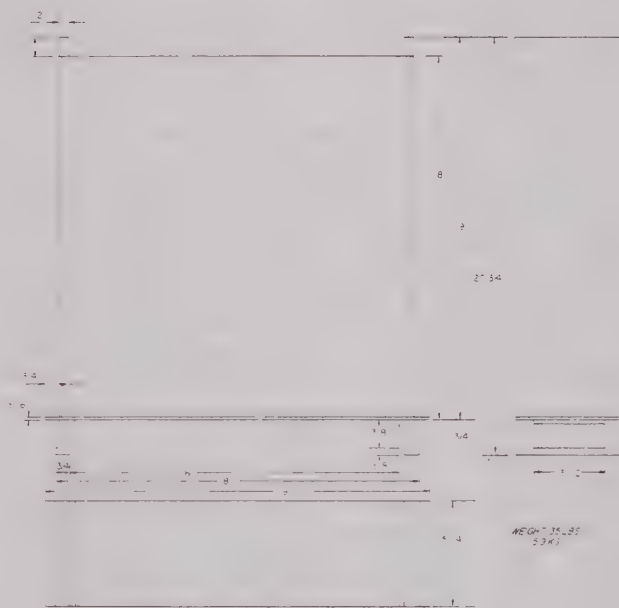

Figure 2-1 Outline and Mounting Dimensions
b. Installation. The E-H Model 1501A is supplied in a rack-mount configuration. Refer to Figure 2-1 for mounting dimensions. Power connection and fuse requirements are silk-screened on the rear panel. Input ac power is connected via the three-conductor power cord (supplied) to rear panel connector J101. The POWER switch should be turned OFF (down) prior to plugging in the instrument. The instrument is cooled by an internal fan that operates when the POWER switch is turned ON. The top and bottom covers should remain in place when the instrument is in use to provide proper flow of cooling air.